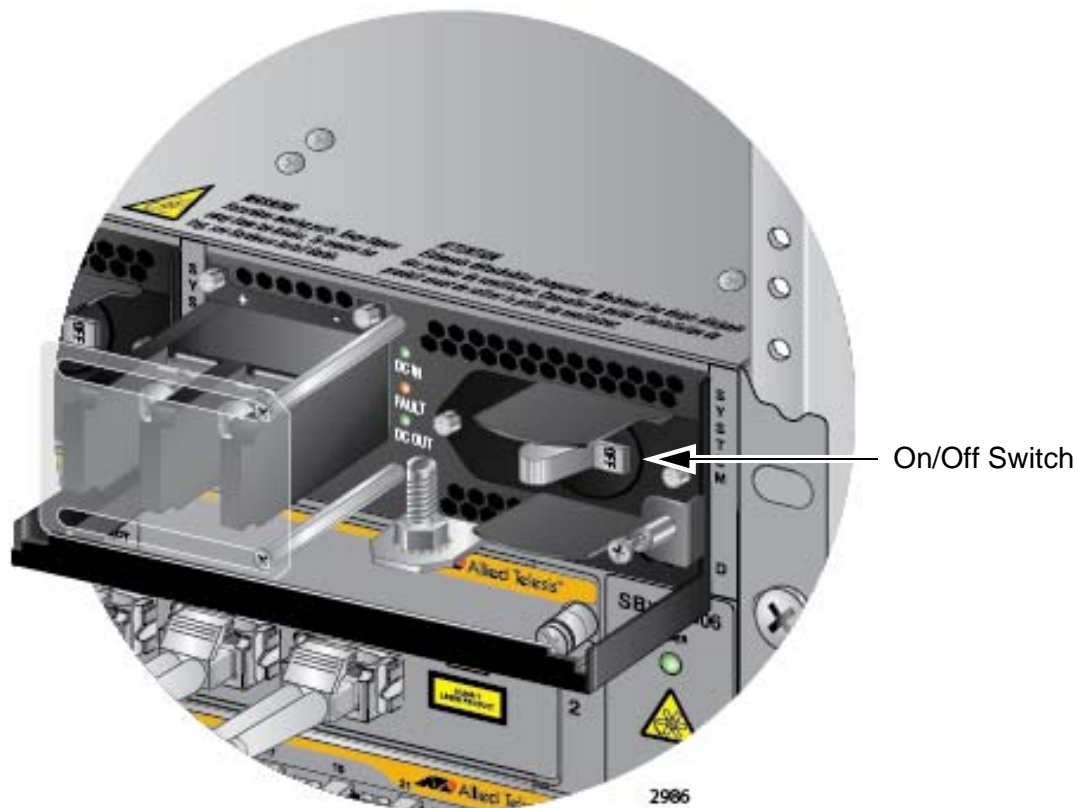

Figure 134. On/Off Switch on the AT-SBxPWRSYS1 DC Power Supply
3. Verify that the On/Off switch on the AT-SBxPWRSYS1 DC Power Supply is in the Off position. Refer to Figure 134 on page 210.
13. Turn the On/Off switch on the power supply to the On position. See Figure 134 on page 210.
2. Verify that the On/Off switch on the AT-SBxPWRSYS1 DC Power Supply is in the Off position. Refer to Figure 134 on page 210.
12. Turn the On/Off switch on the power supply to the On position. See Figure 134 on page 210.
11. Turn the On/Off switch on the power supply to the On position. See Figure 134 on page 210.